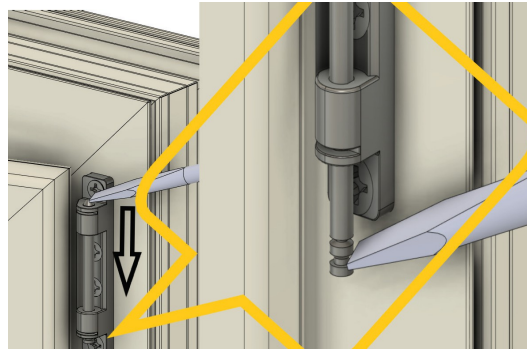

Figure 18
3. One installer supports the weight of the sash. A second installer uses a screwdriver to begin to push the hinge pin down and out. The same tool can be used to finish pulling the pin out from below. Pull the pin until you hear a click. If you pull it all the way out, reinsert until you hear a click (Figure 18).